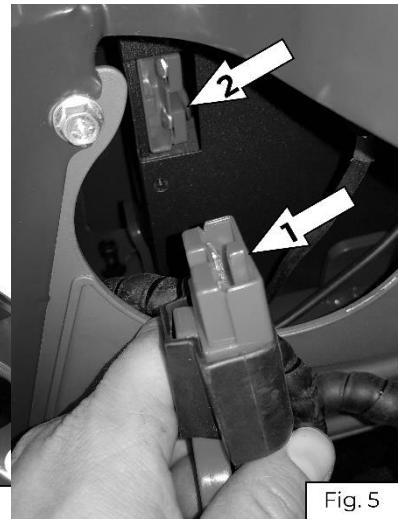

Fig. 5
10. Now install the plug on the pallet car (1, fig.5) in the counter plug of the battery (2, fig.5). Your pallet car is now ready for use.